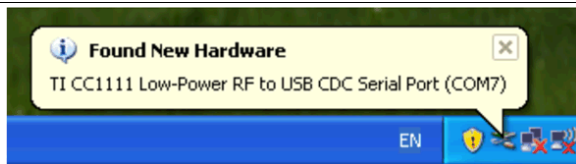

Figure 3. Access Point Detection for eZ430-Chronos With Black PCB
- Windows detects the new hardware as *TI CC1111 Low-Power RF to USB CDC Serial Port* or *eZ430-ChronosAP* (see Figure 3).